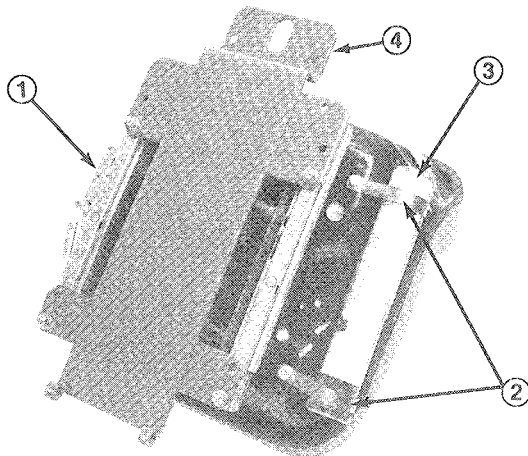

Figure 8
10. Mount seat suspension assembly to (4) capscrews on seat bottom and secure with (4) lockwashers, flatwashers and nuts (Fig. 8).
11. Loosely secure (2) R-clamps to right side of seat bottom with (2) capscrews supplied in kit (Fig. 8). Install manual tube into R-clamps and tighten capscrews (Fig. 8).
12. Mount seat support over four threaded studs at the bottom of seat suspension assembly and secure in place with lockwashers and nuts (Fig. 8).